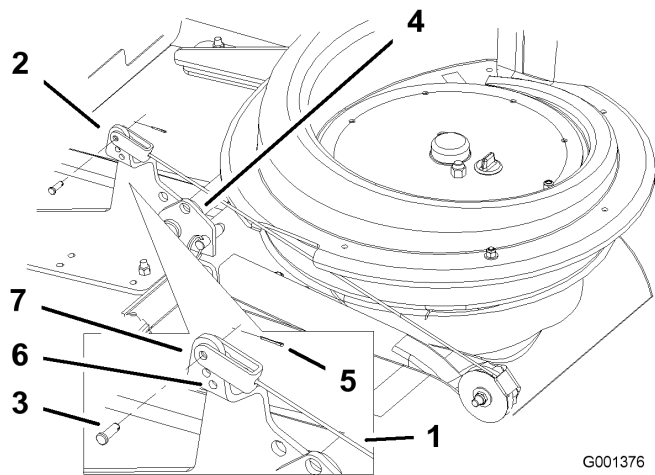

Figure 33
4. Remove the cotter pin and clevis pin (Figure 33).
5. Adjust the bagger cable to the desired hole position (Figure 33).
6. Install the clevis pin and cotter pin into the bagger and cable end (Figure 33).